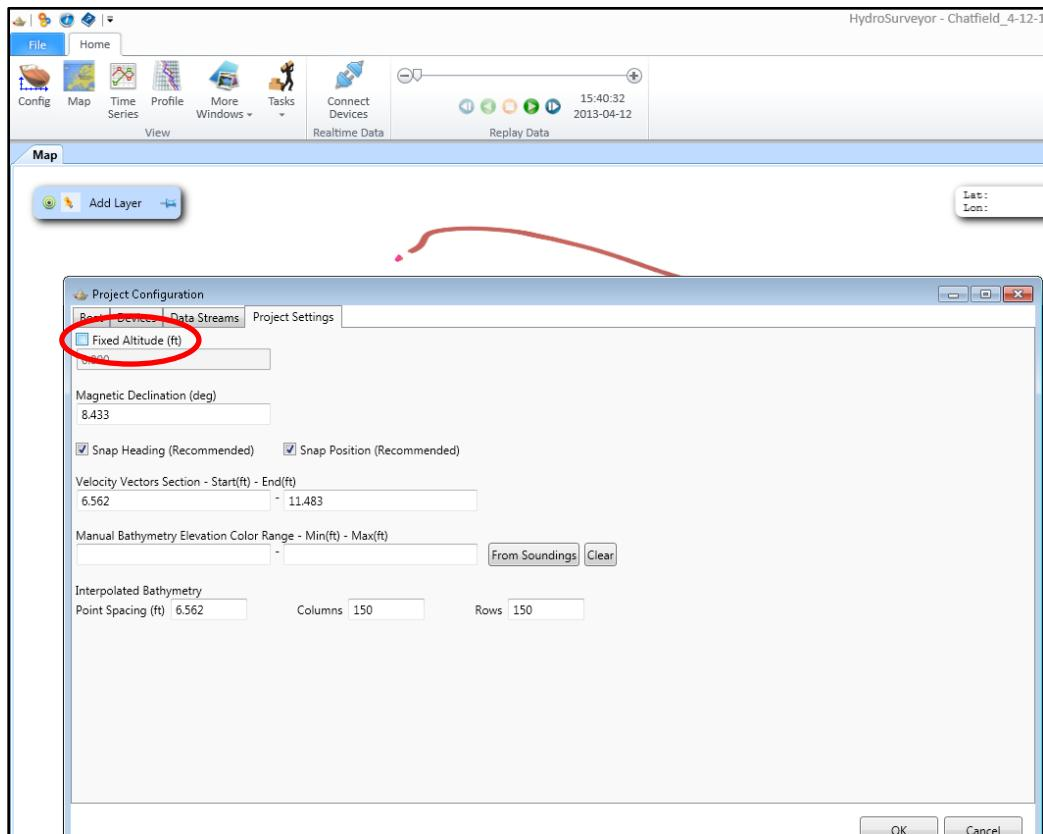

Figure 10.—In the SonTek HydroSurveyor software, verify that “Fixed Altitude” is not selected prior to the soundings export.
1. Soundings must be exported as elevations, not depths. Thus, verify that the “Fixed Altitude (ft)” check box is *not* selected within the “Project Settings” tab under the “Project Configuration” menu (figure 10).